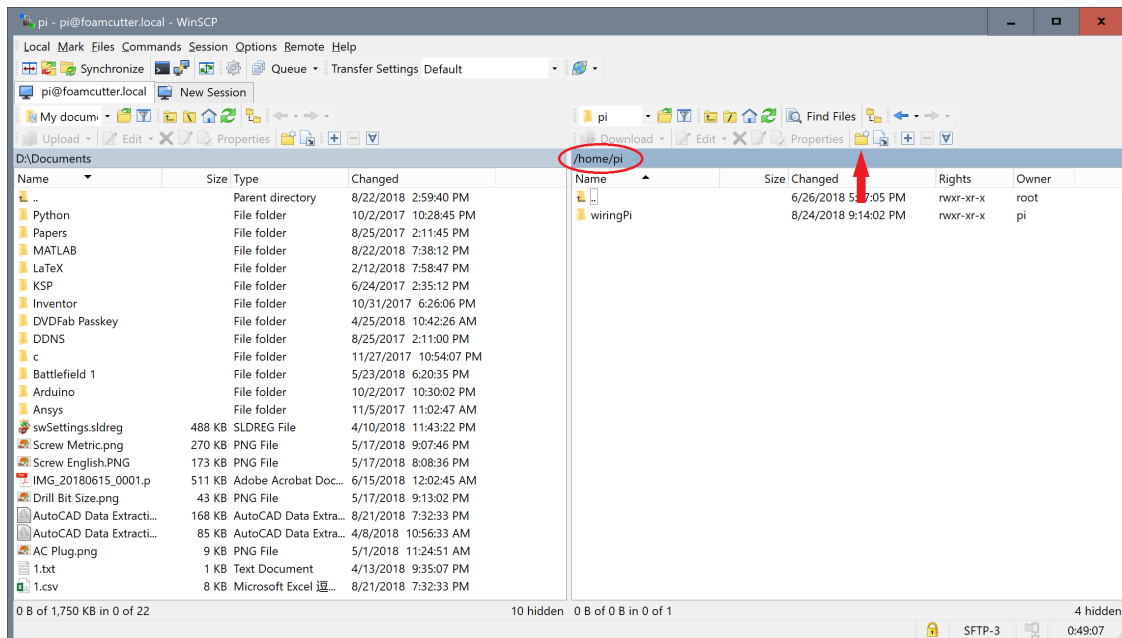

Figure 1.15: WinSCP Window
5. Open WinSCP, a window similar to fig 1.15 below should show up. The left hand side are folders and files on your computer, while the right hand side is files on the Pi. Make sure the right hand side is in the folder “/home/pi”, if not, navigate to it. To create new folder on the Pi, use the “new directory” button. To upload files from your computer to the Pi, simply drag the file/folder from the left half to the right half.